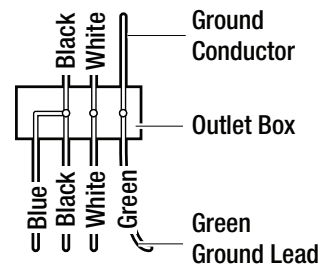

Figure 6
- Connect the fan supply (black) wire and light supply (blue) wire to the black household wire as shown in Figure 6. Do not connect the blue wire if the light kit is not used.
- After connecting the wires, secure the wire connectors (BB) with black electrical tape and spread them apart so that the green and white wires are on one side of the outlet box and the black and blue wires are on the other side (i.e., grounded conductor on one side and hot wires on the other side).
- Turn the wire connectors (BB) upward and push the wiring into the outlet box.